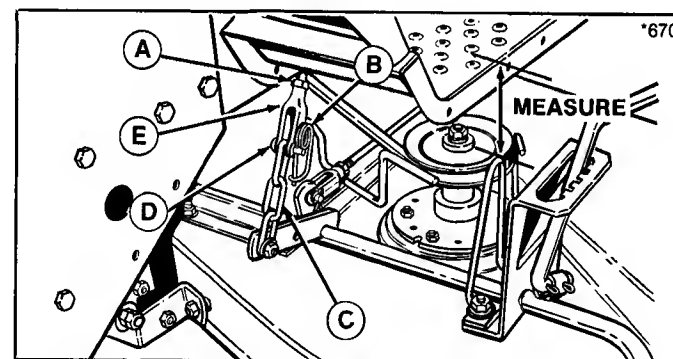

Figure 41. Lift Assembly - Small Lift Lever
2. Measure the distance between top of upstop bracket and bottom of footrest (figure 41). The measurement should be 2-13/16 inches.
3. To adjust, disconnect clevis (E) from chain. Loosen nut (A) and turn clevis to raise or lower mower. Re-connect chain to check measurement. When correct, tighten nut against clevis.